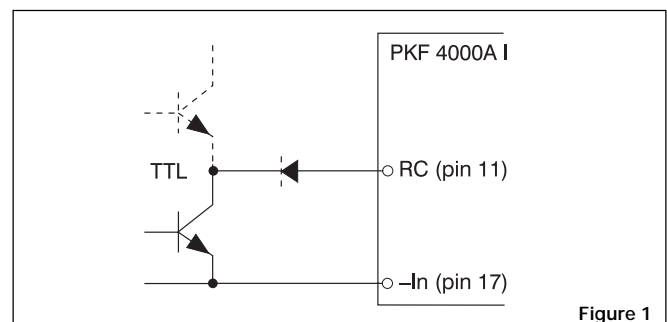

Figure 1
Turn-on or turn-off can be realized by using the RC-pin. If pin 11 is connected to pin 17 the power modules turns off. Normal operation is achieved if pin 11 is open (NC). To ensure safe turn-off the voltage difference between pin 11 and 17 shall be less than 1.0V. RC is an TTL open collector compatible output with a sink capacity $>300 \mu A$ (see fig. 1).